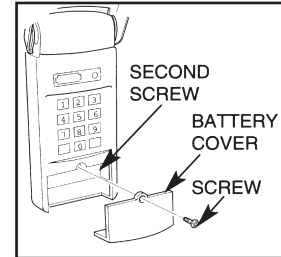

Figure 4
6. Remove the battery cover to expose the second screw hole. See Figure 4.